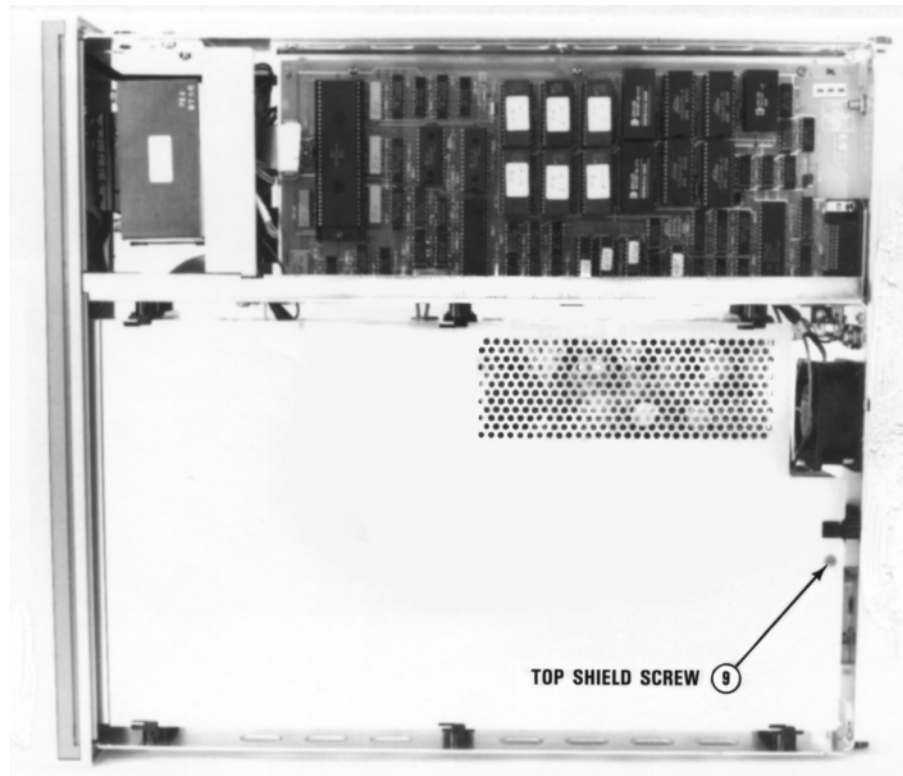

Figure C-7 3458A inside top view
- 1** Refer to **Figure C-7**. Turn the instrument over so its bottom sits on your work bench.
- 4** Refer to **Figure C-7**. Replace the top shield. Line up the slots on the shield with the shield retainers. Then push the shield toward the front of the instrument until the shield screw hole lines up with the hole in the chassis. Use the #TX 10 Torx driver to reinstall the shield screw.